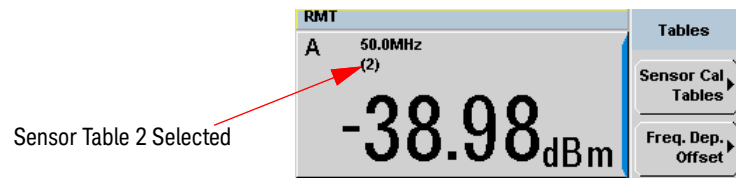

Figure 7-9 Frequency dependent offset indicator
- 4 Press **Done** again to display the measurement screen. Figure 7-9 shows which offset table is selected.